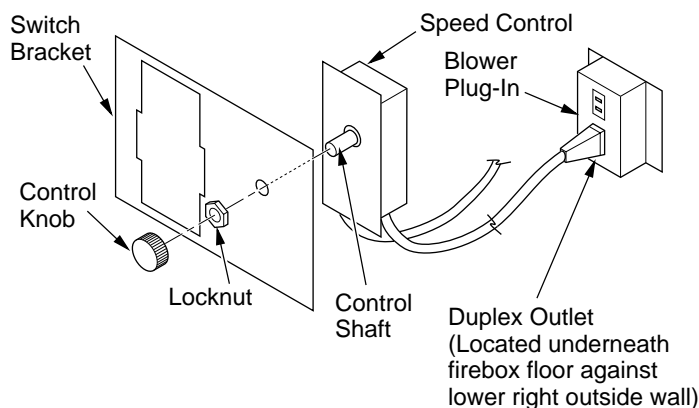

Figure 26 - Attaching Speed Control to Firebox
5. Mount speed control box to switch bracket by placing the plastic control shaft forward through the round opening in the switch bracket (see Figure 26).
5. Mount the speed control box against the mounting plate provided in the lower fireplace cavity by placing the plastic control shaft forward through the round hole (see Figure 26, page 17).
6. While supporting speed control, secure control shaft with lock nut by pushing and turning lock nut with pliers clockwise until it is tight against mounting plate. Place control knob provided on shaft (see Figure 26, page 17).